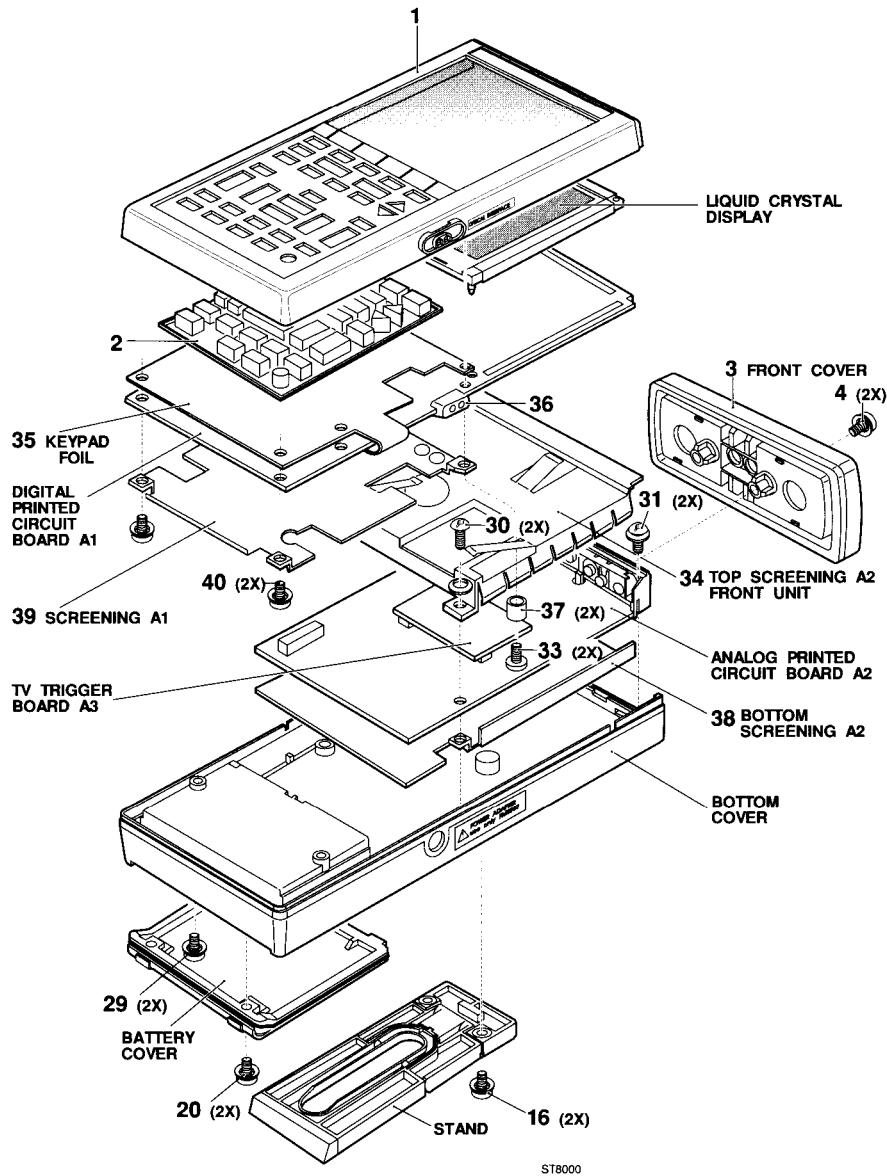

Figure 7.5 Bottom cover replacements
Referring to figure 7.5, use the following procedure for replacements in the bottom cover.
Referring to figure 7.5, use the following procedure for top cover assembly replacement.
4. Lift the keypad from the top cover (item 2, fig. 7.5).